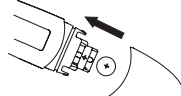

Figure 5
- Use pointed object such as a pen to remove old battery. Discard battery lawfully. Replace with new 1.5V DC button type LR41 or SR41,UCC392, or equivalent. Be sure battery is installed with "+" polarity facing up. (See Figure 5)